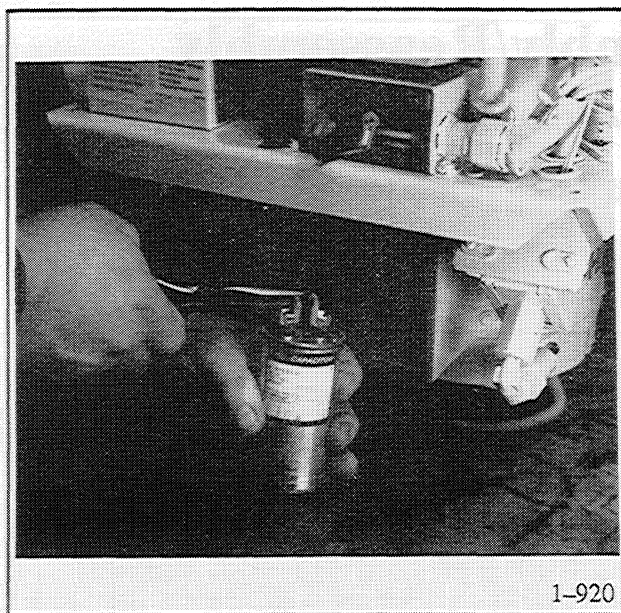

Figure 5-5. Disconnecting Stator Leads.
6. Disconnect stator leads (55 & 66) from capacitor. (Figure 5-5).